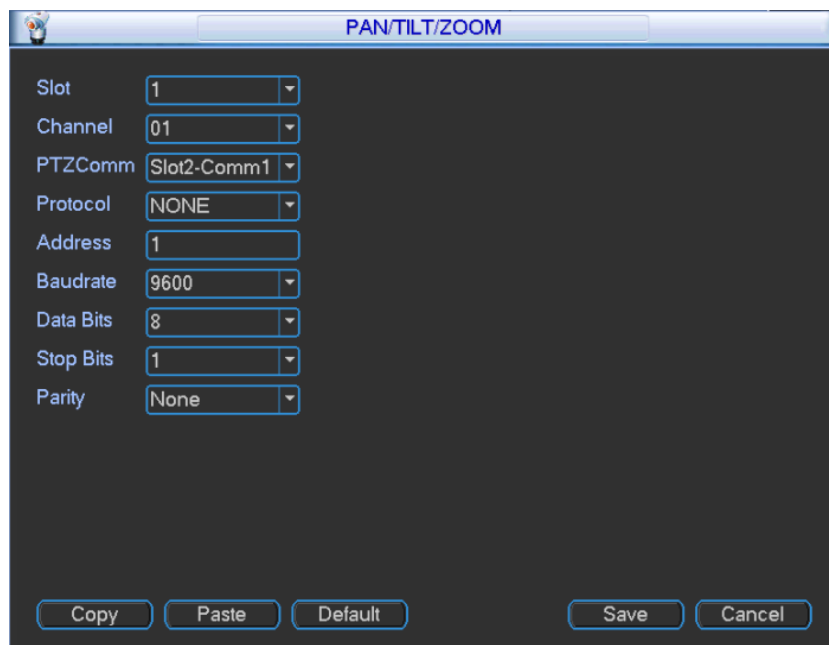

Figure 3-59
Step 1 In main menu, select “Setup > Pan/Tilt/Zoom”. The system displays “Pan/Tilt/Zoom” interface, as shown in Figure 3-59.